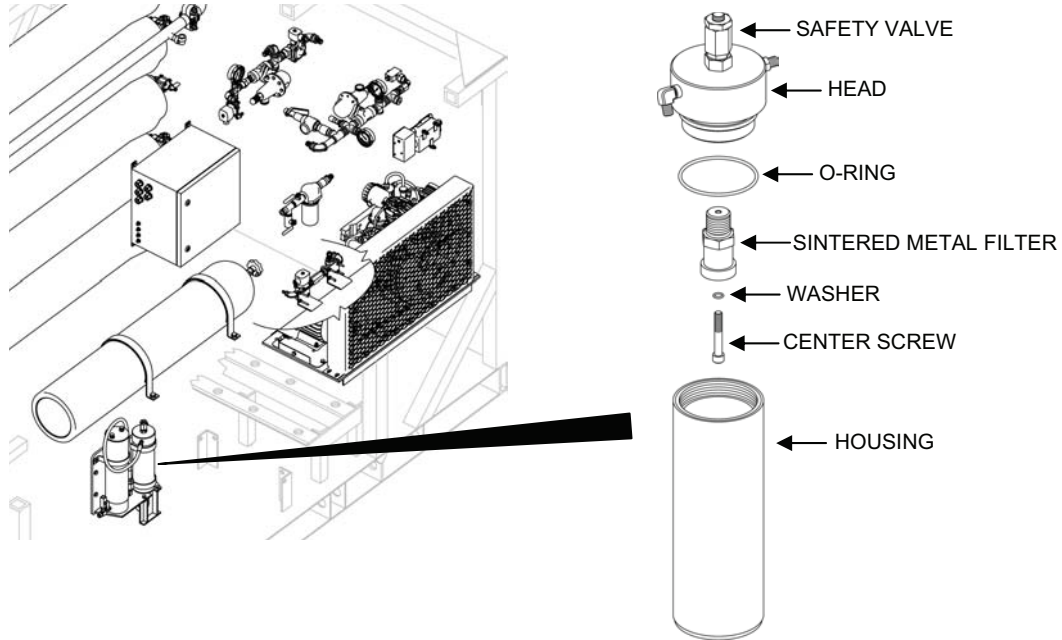

Figure 20. Coalescer CO1 Sintered Metal Filter.
2. Remove the CO1 oil/water coalescer sintered metal filter as follows (see Figure 20):